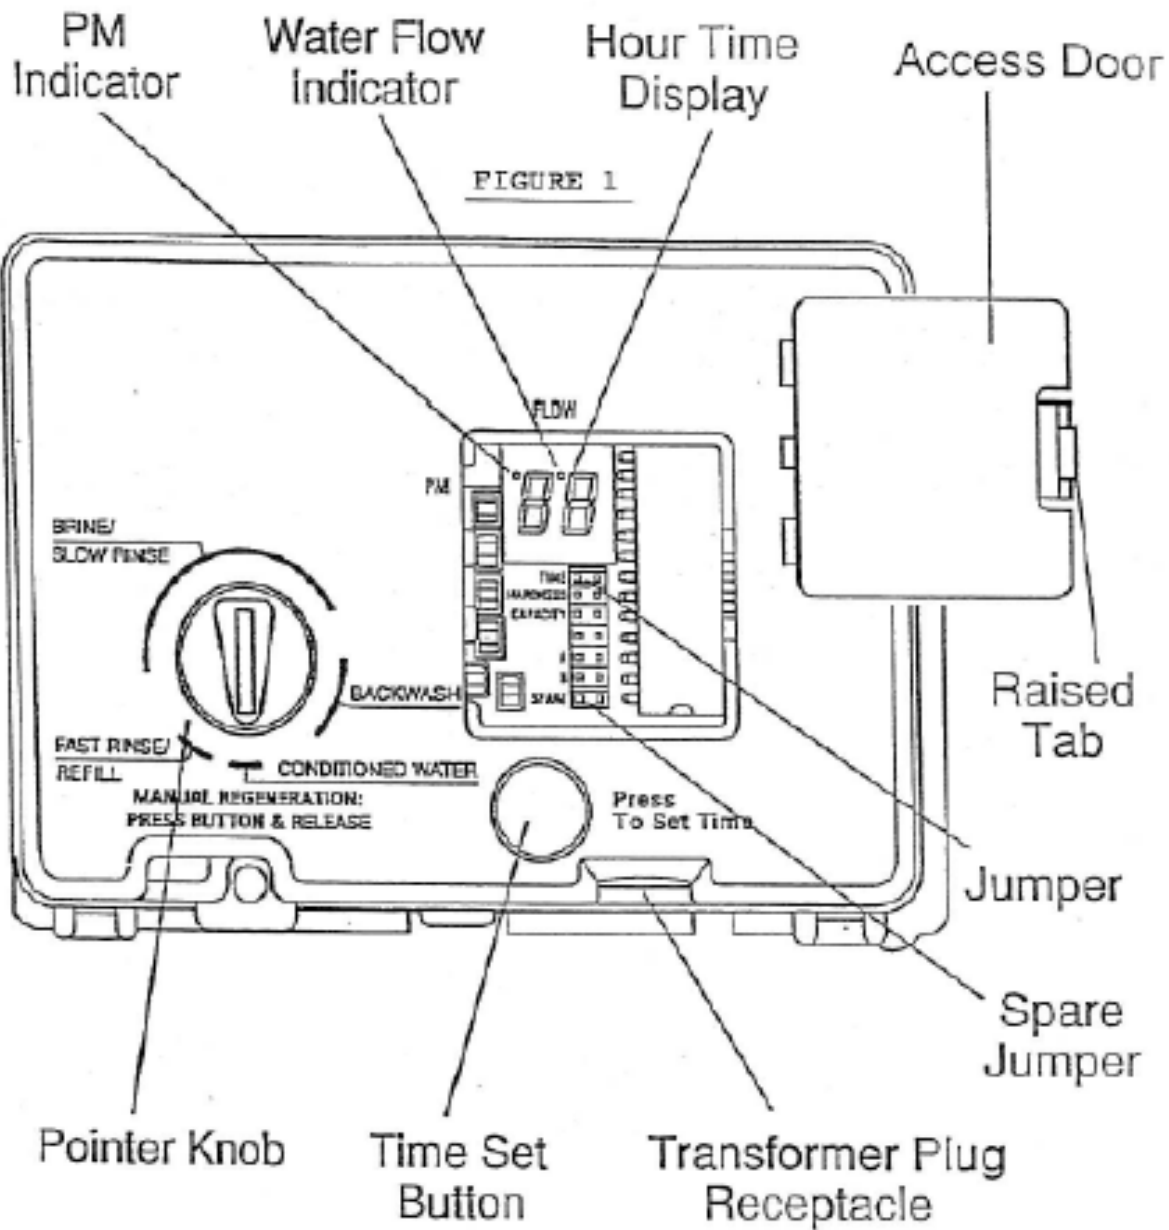

FIGURE 2
2. With the JUMPER on the top 2 pins next to the word TIME (Figure 2), set the time-of-day to the closest hour by depressing the TIME SET BUTTON. PM hours are indicated by a light next to the letters PM on the display window.